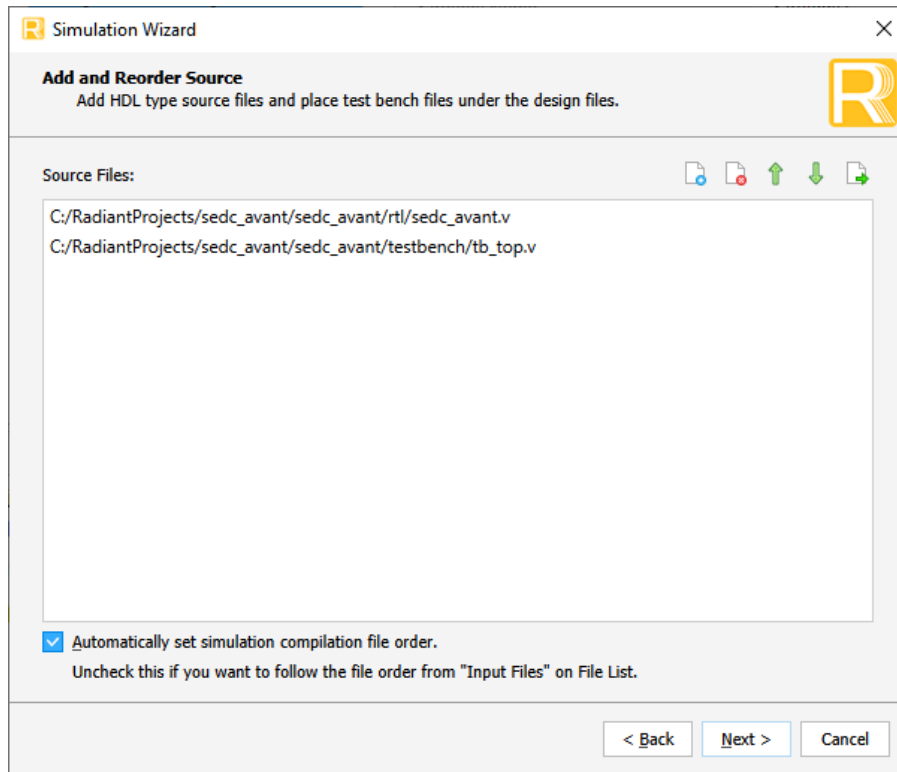

Figure 3.6. Adding and Reordering Source
2. Click **Next** to open the **Add and Reorder Source** window as shown in Figure 3.6.